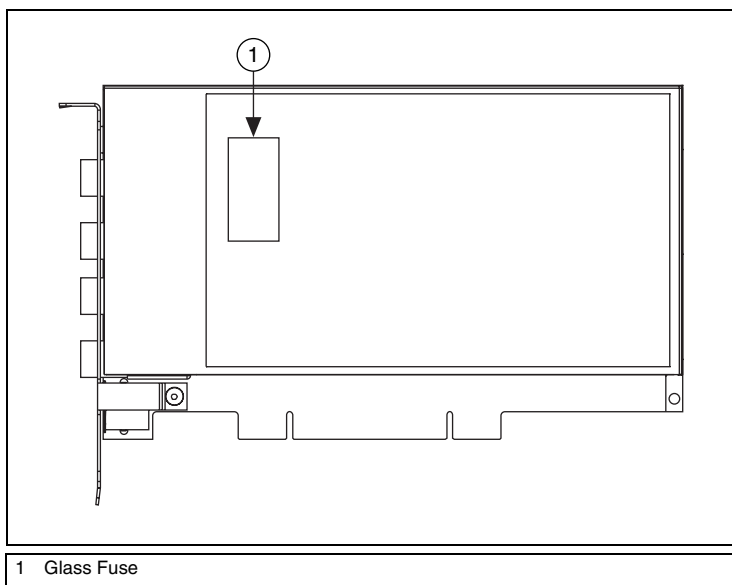

Figure 18. Removing the Fuse from the NI PCI-4060
5. Locate the 5 × 20 mm glass fuse shown in Figure 18.